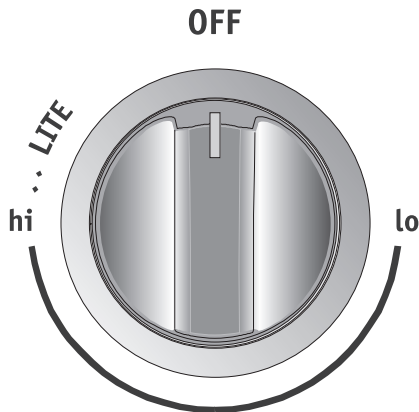

Figure 8: Gas knob LITE position
3. Release the knob and rotate to the **LITE** position (Figure 8). Note: All four electronic surface ignitors will spark at the same time. However, only the burner you are turning on will ignite.